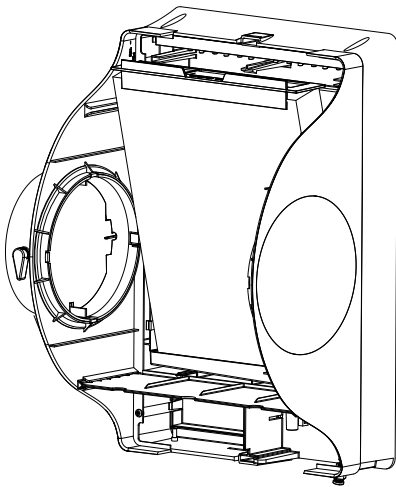

Figure 11
5. To remove the evaporator pad, push the retaining clips and pull the top pad retainer out from the base. The retainer and pad will come out together. The drain pan stays inside the unit. See Figure 11.